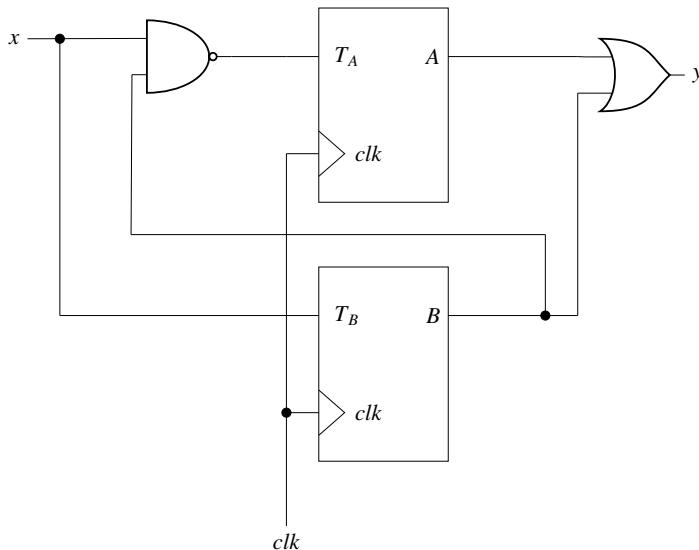

Fig. 5.29
30. Two T-flip flops are interconnected as shown in Fig. 5.29. The present state of the flip flops are:  $A = 1, B = 1$ . The input  $x$  is given as 1, 0, 1 in the next three clock cycles. The decimal equivalent of  $(ABy)_2$  with A being the MSB and y being the LSB, after the 3rd clock cycle is \_\_\_\_\_